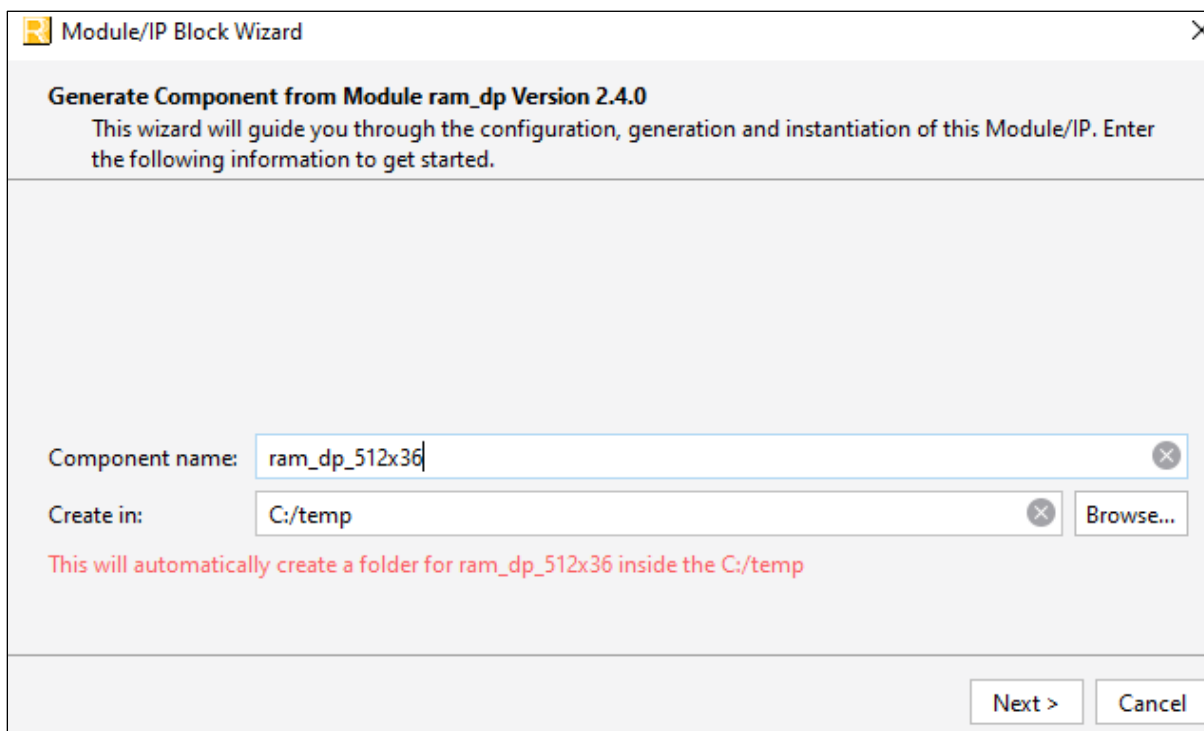

Figure 2.3. Example: Generating Pseudo Dual-Port RAM ram_dp Using the IP Catalog
2. Fill out the module information, as shown in Figure 2.3.